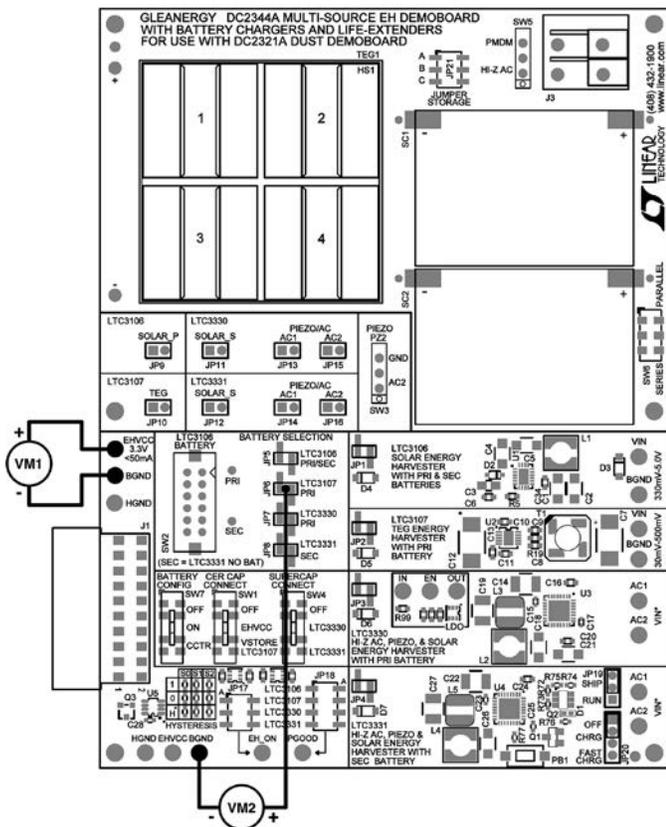

Figure 6. Setup for DC2344A Test Procedure with LTC3107
8. Reconfigure the board according to Figure 6: